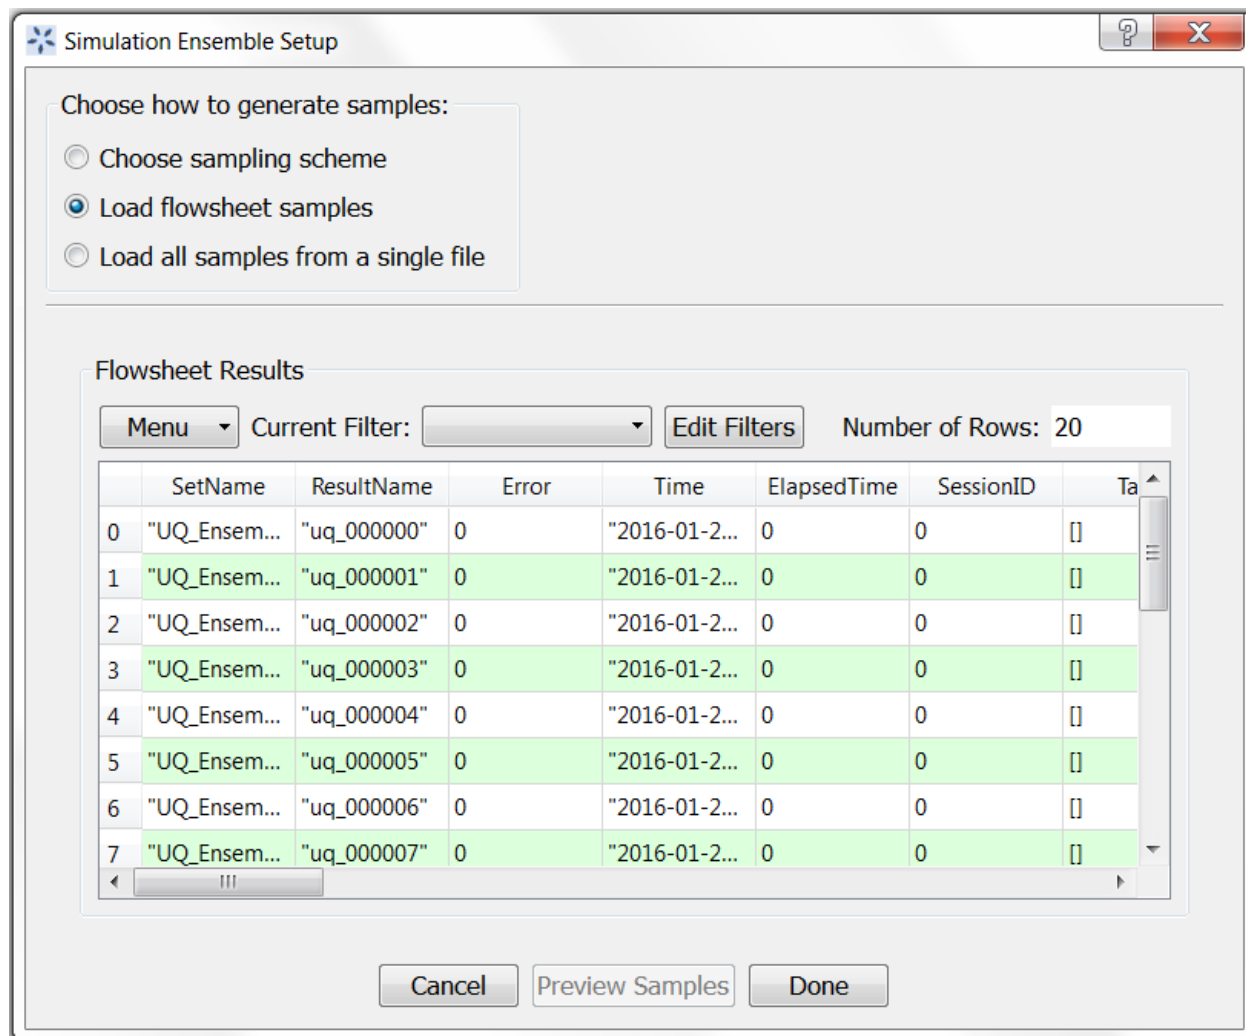

Figure 12: Visualize Response Surface: Create New Ensemble
5. In the new opened dialog select the “Load Flowsheet Samples” option and then click “Done”. This creates a new Ensemble in the “Uncertainty” tab as shown in Figure 12.